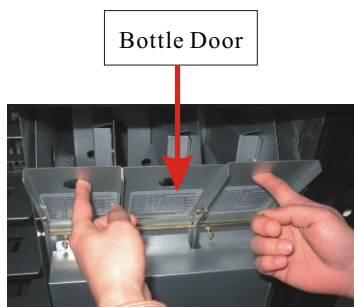

Figure 16 Pull bottle door “up” then “out”.
- a. Open the D4, D5, D6 access doors by pulling “up” then “out” (Figure 16).